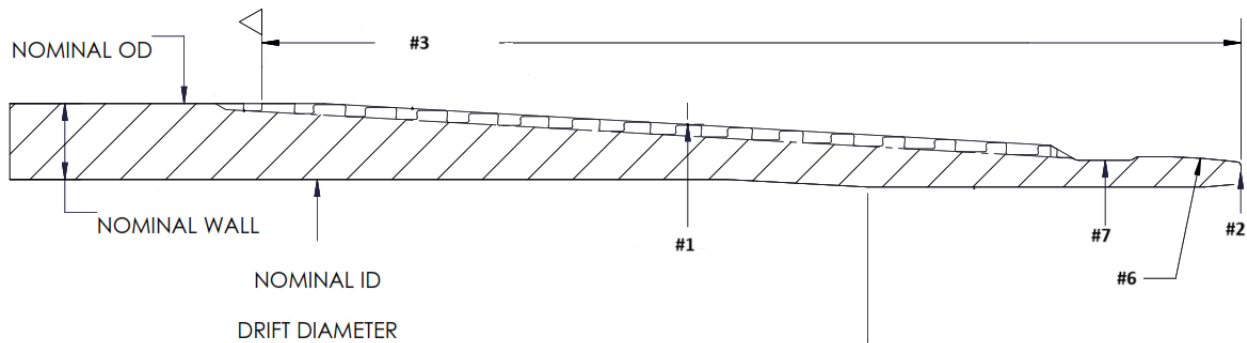

Figure 1. Anaconda GT Pin
5.2 The below figure 1 can be used as a reference guide for visual field inspection and repairable areas.